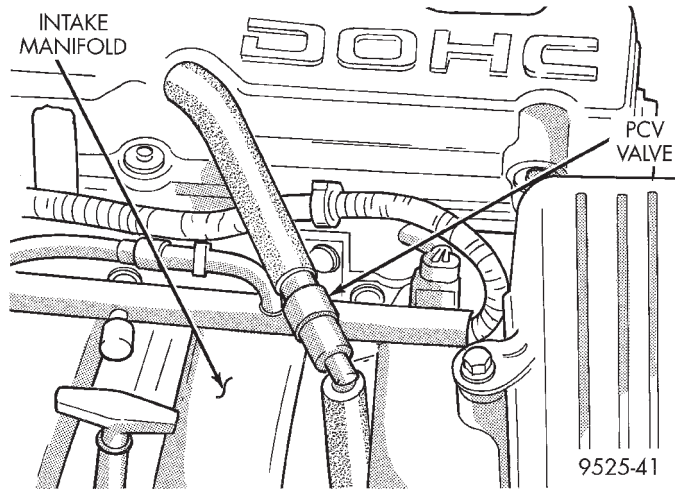
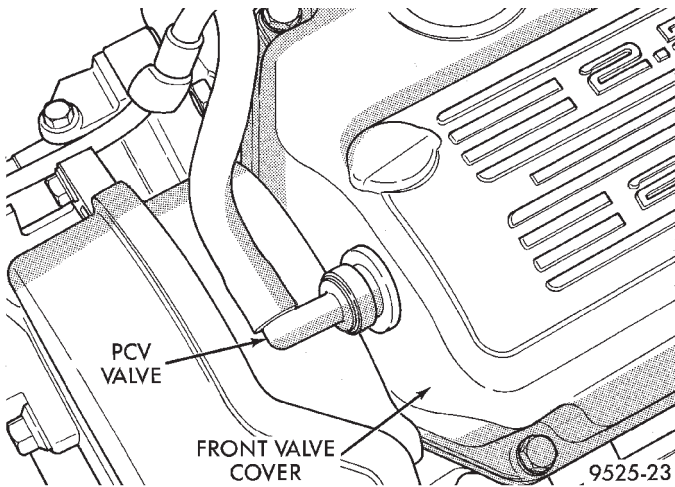

Fig. 36 PCV Valve—2.4L Engine
Fig. 37 PCV Valve—2.5L Engine
(6) Check hose connections between the PCV valve, vacuum port-intake manifold (Fig. 36) or (Fig. 37).